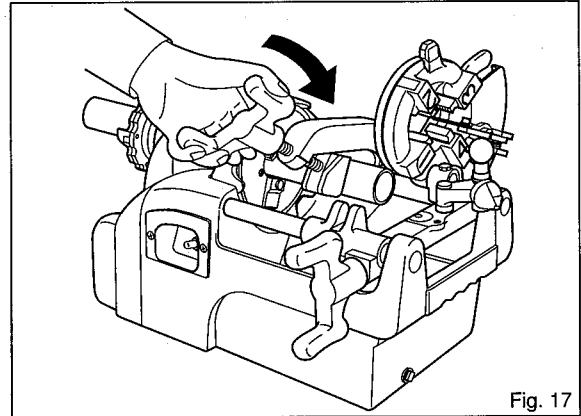

Fig. 17
- (1) As the die head and reamer will not be used when cutting pipes, lift them out of the way.
- (2) Determine the position at which the pipe is to be cut, then fasten the pipe securely.
- (3) Open the pipe cutter to a position wider than the pipe diameter. Place the cutter in the pipe as shown in the figure, aligning the blade with the cutting position on the pipe. Then use the handle to move the roller and blade until they rest lightly against the pipe.
- (4) Set the switch to the ON position, then turn the cutter handle up to 1/2 turn for each rotation of the pipe (Fig. 17). Avoid cutting with excessive force from the beginning, or the shape of the pipe may become distorted, preventing you from making accurate circular threads. Throughout the process, turn the cutter handle against the pipe lightly and evenly.